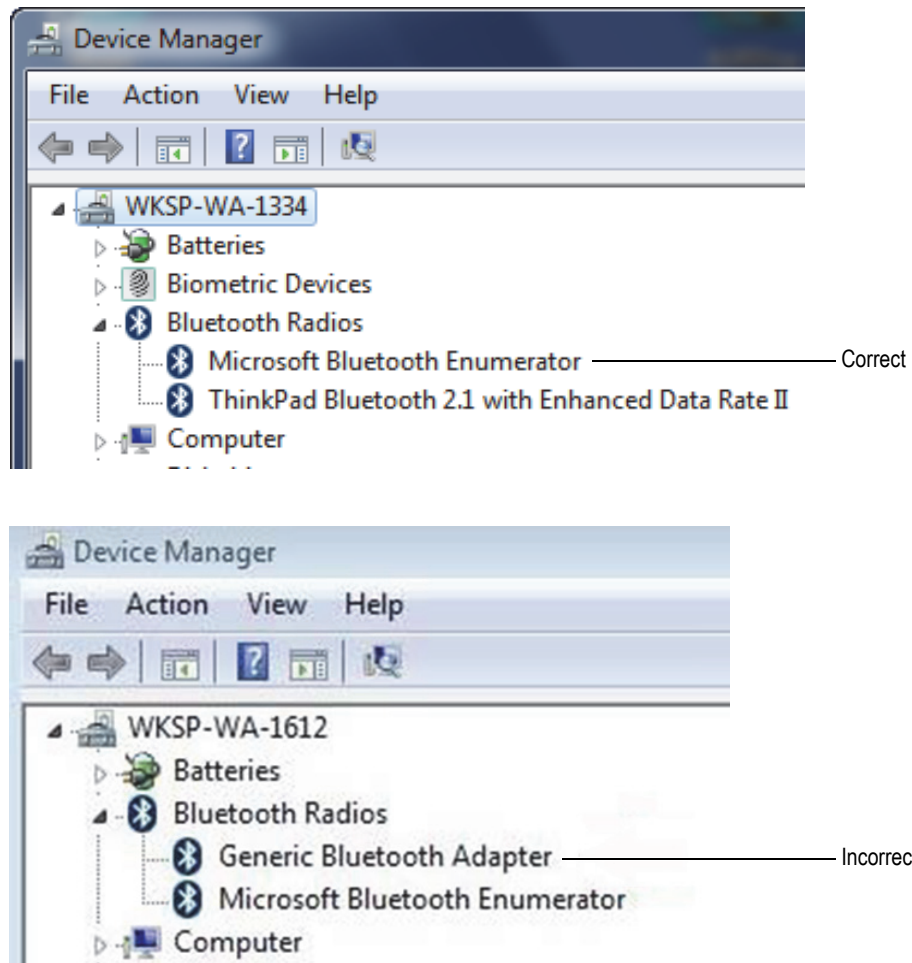

Figure G-2 Select the correct Bluetooth® adaptor
4. Click the **Bluetooth Radios** icon to display the available Bluetooth® adaptors (see Figure G-2 on page 177).